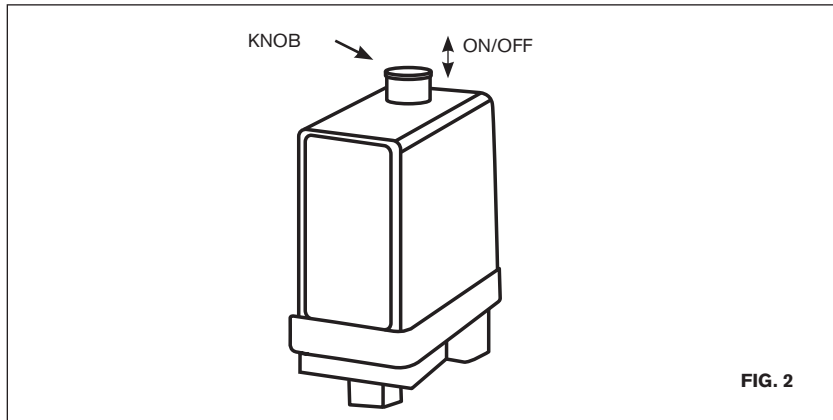

FIG. 2
6. Open the outlet valve, set the knob of pressure switch in position on (Fig.2), let the compressor run 10 minutes with no load to ensure lubricating the moving parts before regular service